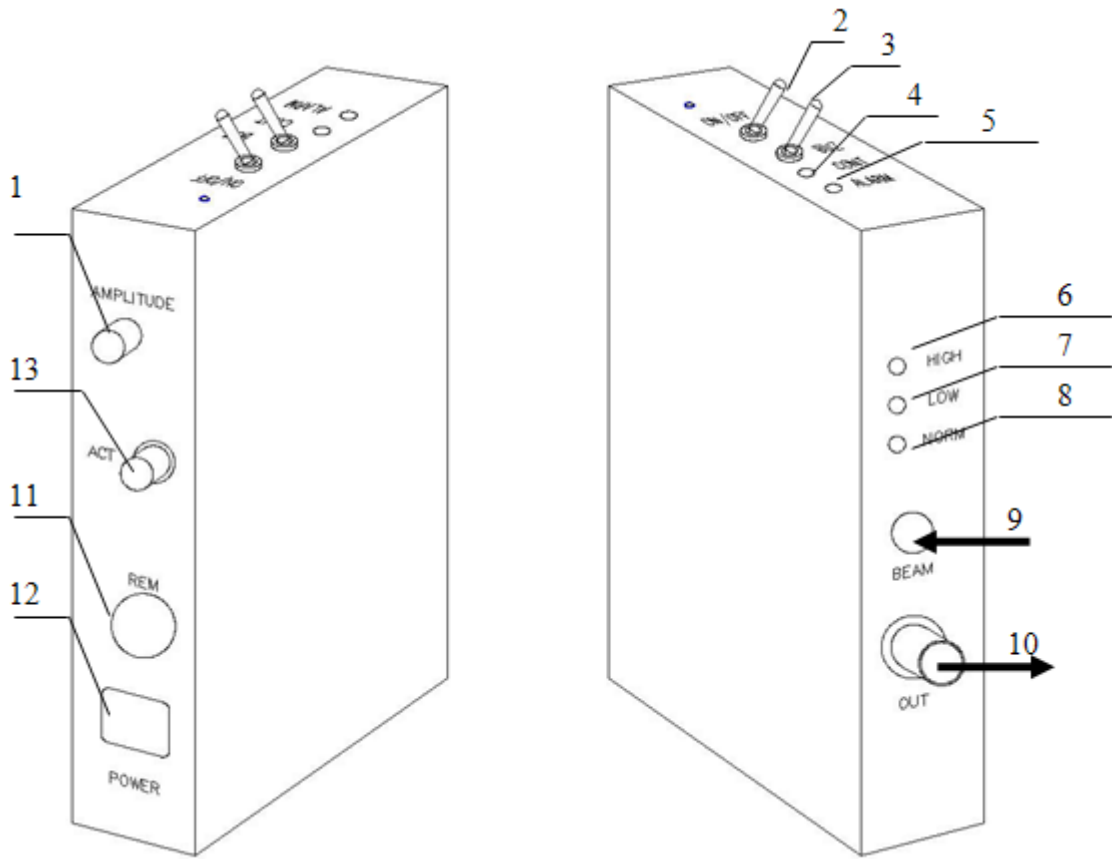

Fig. 22
5. Direct a part of output radiation (≤ 10 mW) to the photodiode of the LS-6.0. At suitable level of light, the green LED "Normal" is on (8 in *Fig. 22*).
6. Connect the 50-Ohm BNC connector (10 in *Fig. 22*) of the LS-6.0 to a 400 MHz oscilloscope.
8. Switch on pulse-enable switch (2 in *Fig. 22*). Green LED "control" (4 in Fig.5.2) lights on.
9. Rotate amplitude adjust (1 in *Fig. 22*) clockwise (i.e. maximize deviation of prism).